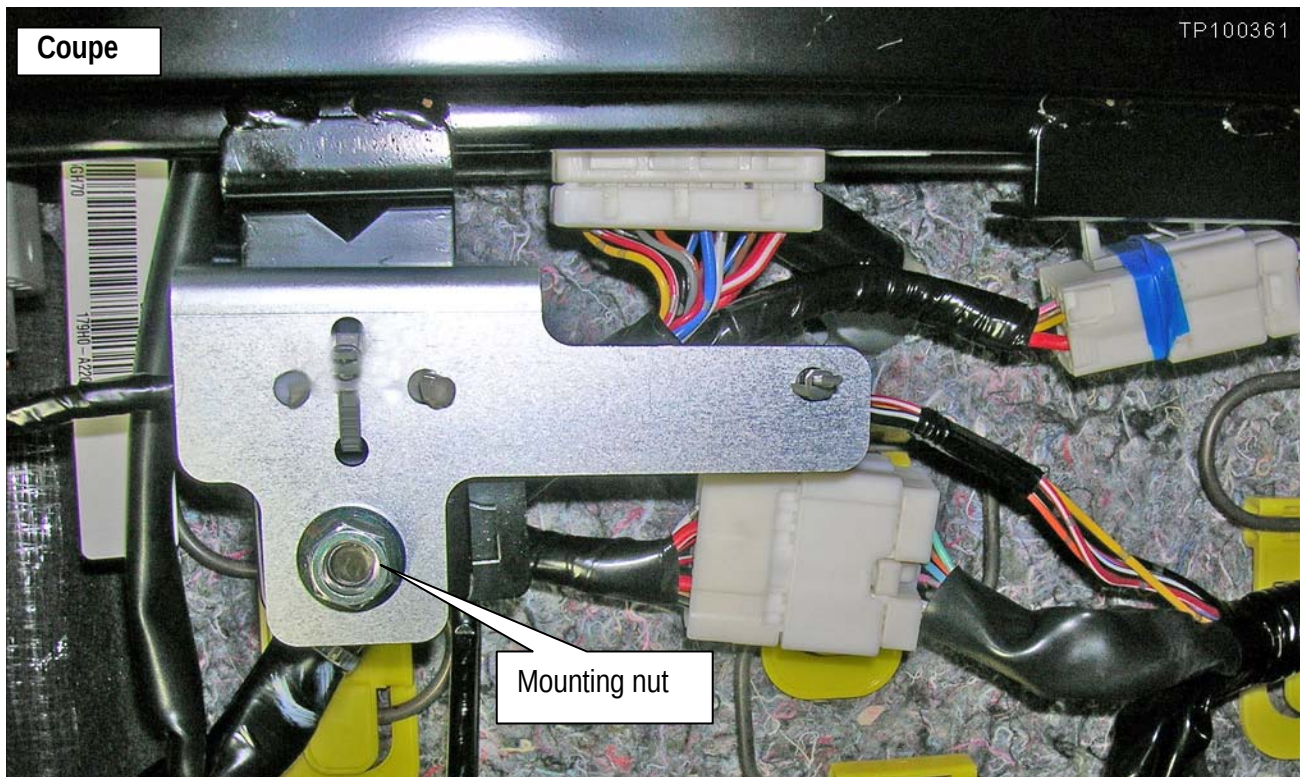

Figure 10
20. For **Coupe** only: Flip the new bracket over and mount it as shown in Figure 10.